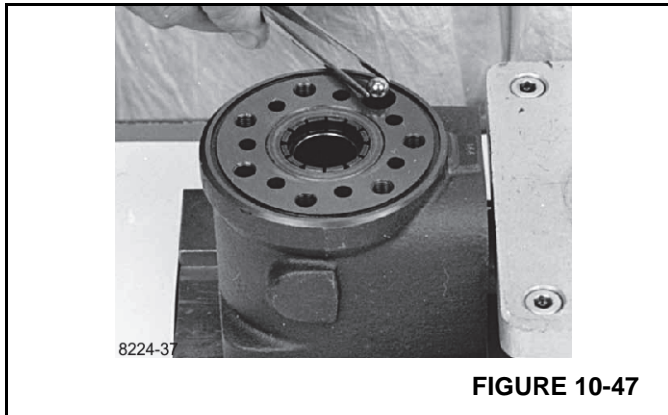

FIGURE 10-47
16. Turn the steering unit until the bore is vertical again. Put the check valve ball into the hole shown (Figure 10-47).